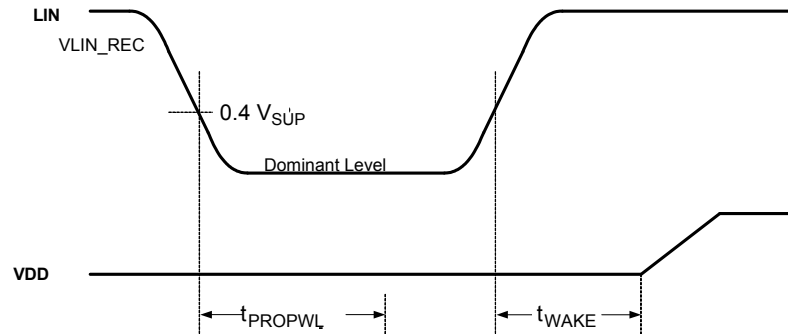
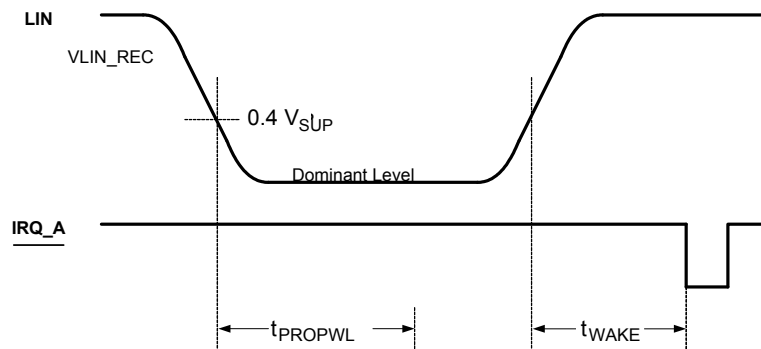

Figure 8. Wake-up Sleep Mode Timing
Figure 9. Wake-up Stop Mode Timing
- t_{WAKE} is typically 2 internal clock cycles after LIN rising edge detected. See Figure 8 and Figure 9, page 15. In Sleep mode the V_{DD} rise time is strongly dependent upon the decoupling capacitor at VDD pin.